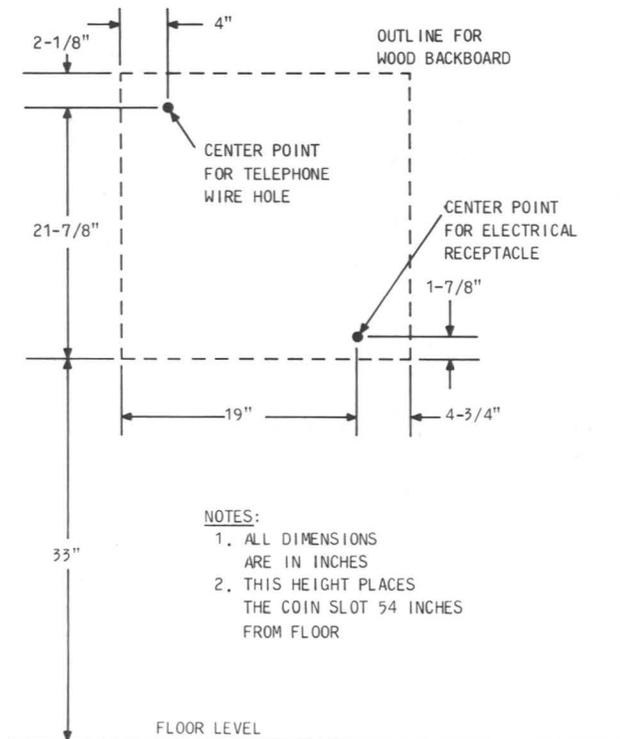

Fig. 6—Locating Backboard on Wall
3.04 Refer to Fig. 6 and mark the position on the wall for backboard.